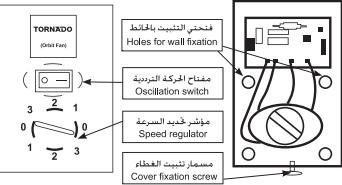

fig.4 شکل ۴
- 4- Install the fixing holes with suitable screws (refer to fig.4).